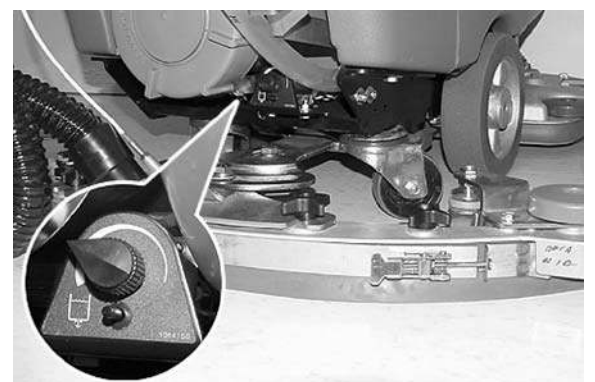

FIG. 20
8. For conventional scrubbing, turn the solution flow control knob to a desired flow rate (Figure 20).